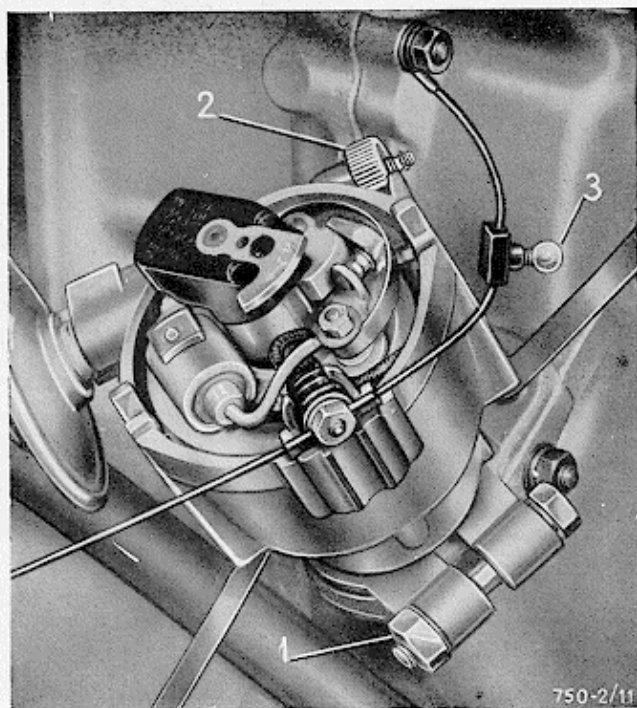

Fig. 11 - Checking the instant the contact breaker points open:
as shown in fig. 11, insert a 12 V. bulb between the feed terminal on the distributor and the earth; the bulb will light up immediately the contacts open.
Small timing corrections can be obtained by turning the knurled nut **2** (fig. 11); tightening or loosening the nut retards or advances the ignition. Corrections of greater magnitude are made as follows:
- slacken the nut on the locking bolt **1** (fig. 11);